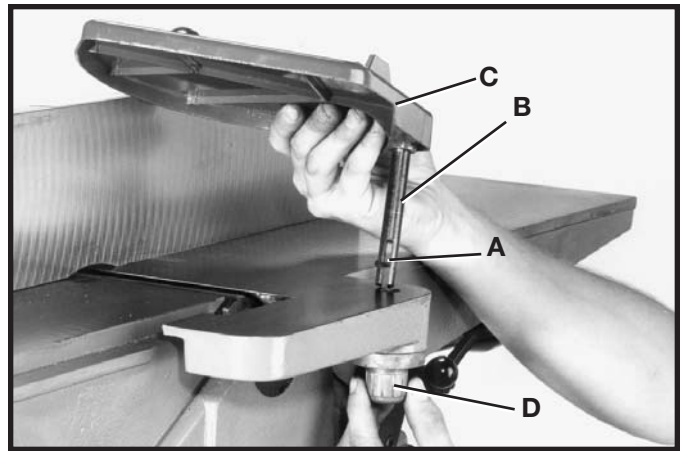

Fig. 23
1. Remove set screw (A) Fig. 23, from post (B) of cutterhead guard (C).
2. Assemble cutterhead guard (C) Fig. 23, to the jointer by inserting post (B) down through the hole in the infeed table. **NOTE:** A spring is supplied in knob assembly (D) that returns the guard (C) over the cutterhead after a cut has been made. Turn knob (D) to tension spring before inserting post (B). Make certain the spring engages in the slot of the post. To adjust spring tension, remove the cutterhead guard (C) Fig. 23, and rotate knob (D) to the desired amount of tension. **NOTE: THE CUTTERHEAD GUARD MUST BE TENSIONED SO THAT IT WILL RETURN TO COVER THE CUTTERHEAD ONCE THE MATERIAL HAS PASSED.**